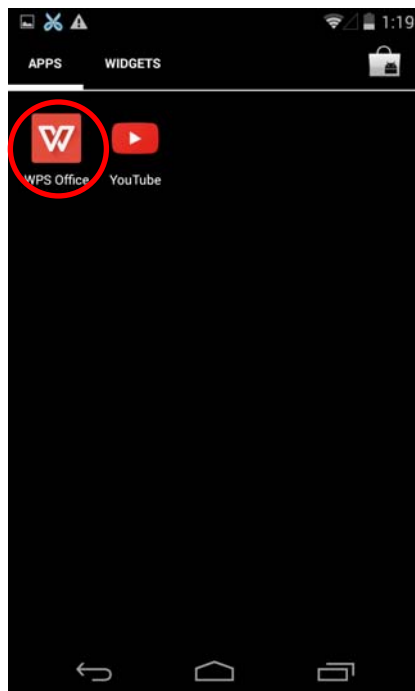

Figure 25
4.1 Run the APP "WPS Office", as shown in Figure 25.